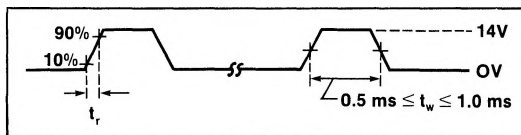

Figure 3. Protect Programming Pulse
Step 2: Taking one pin at a time, apply a protect programming pulse (Figure 3) to each user-bus bit (UD0–UD7)—refer to Table 3 for min/max specifications pertaining to voltage and current.